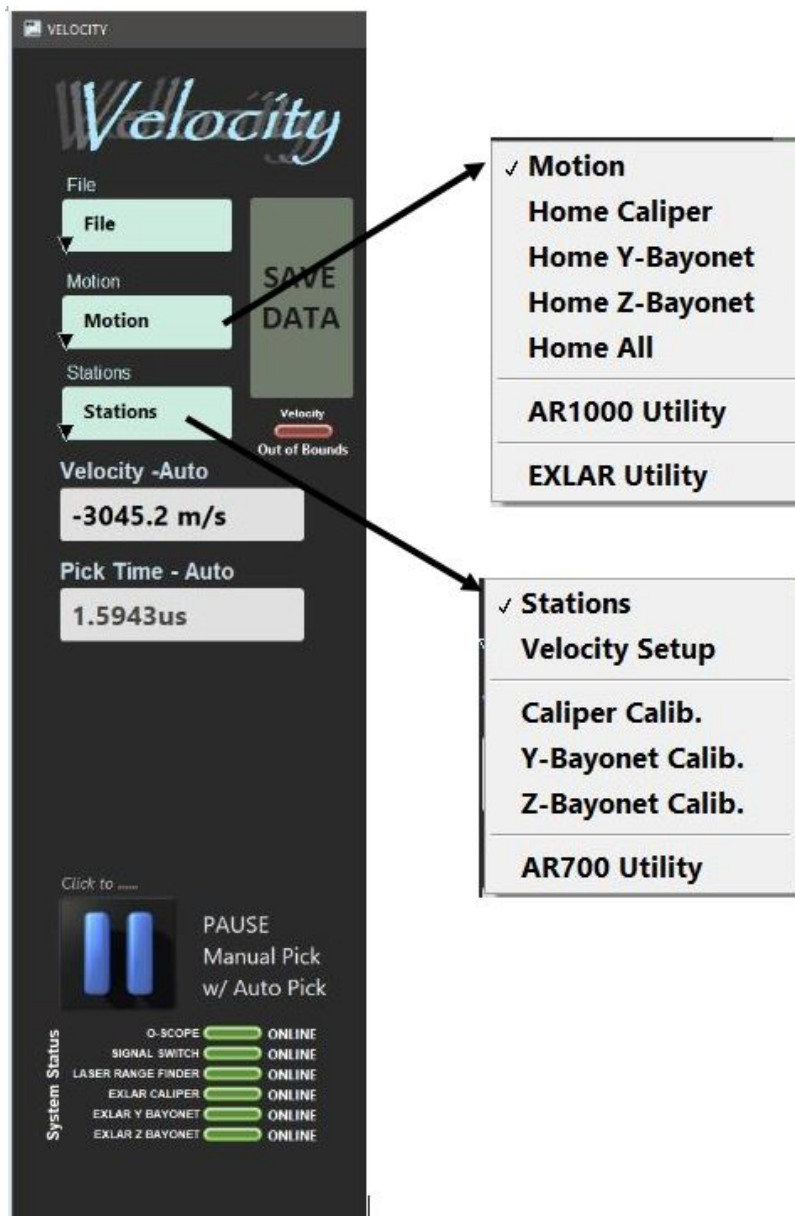
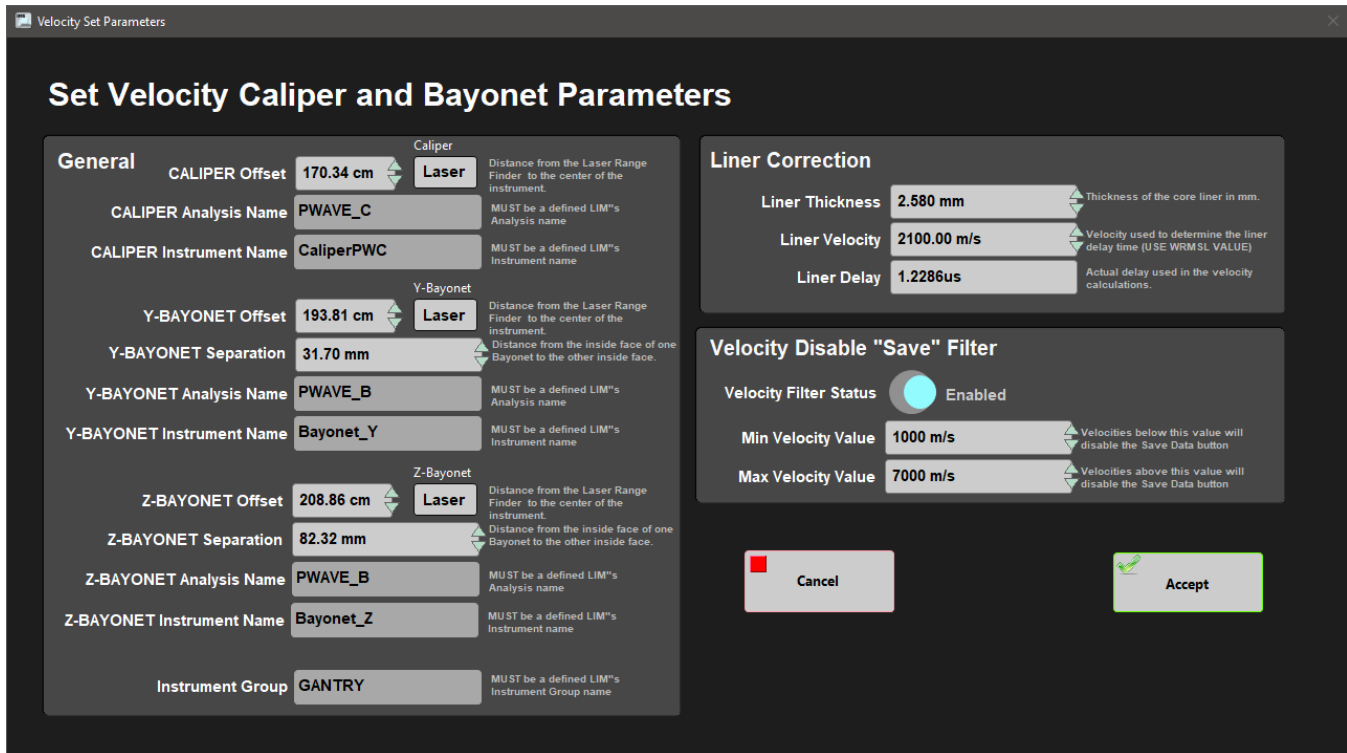
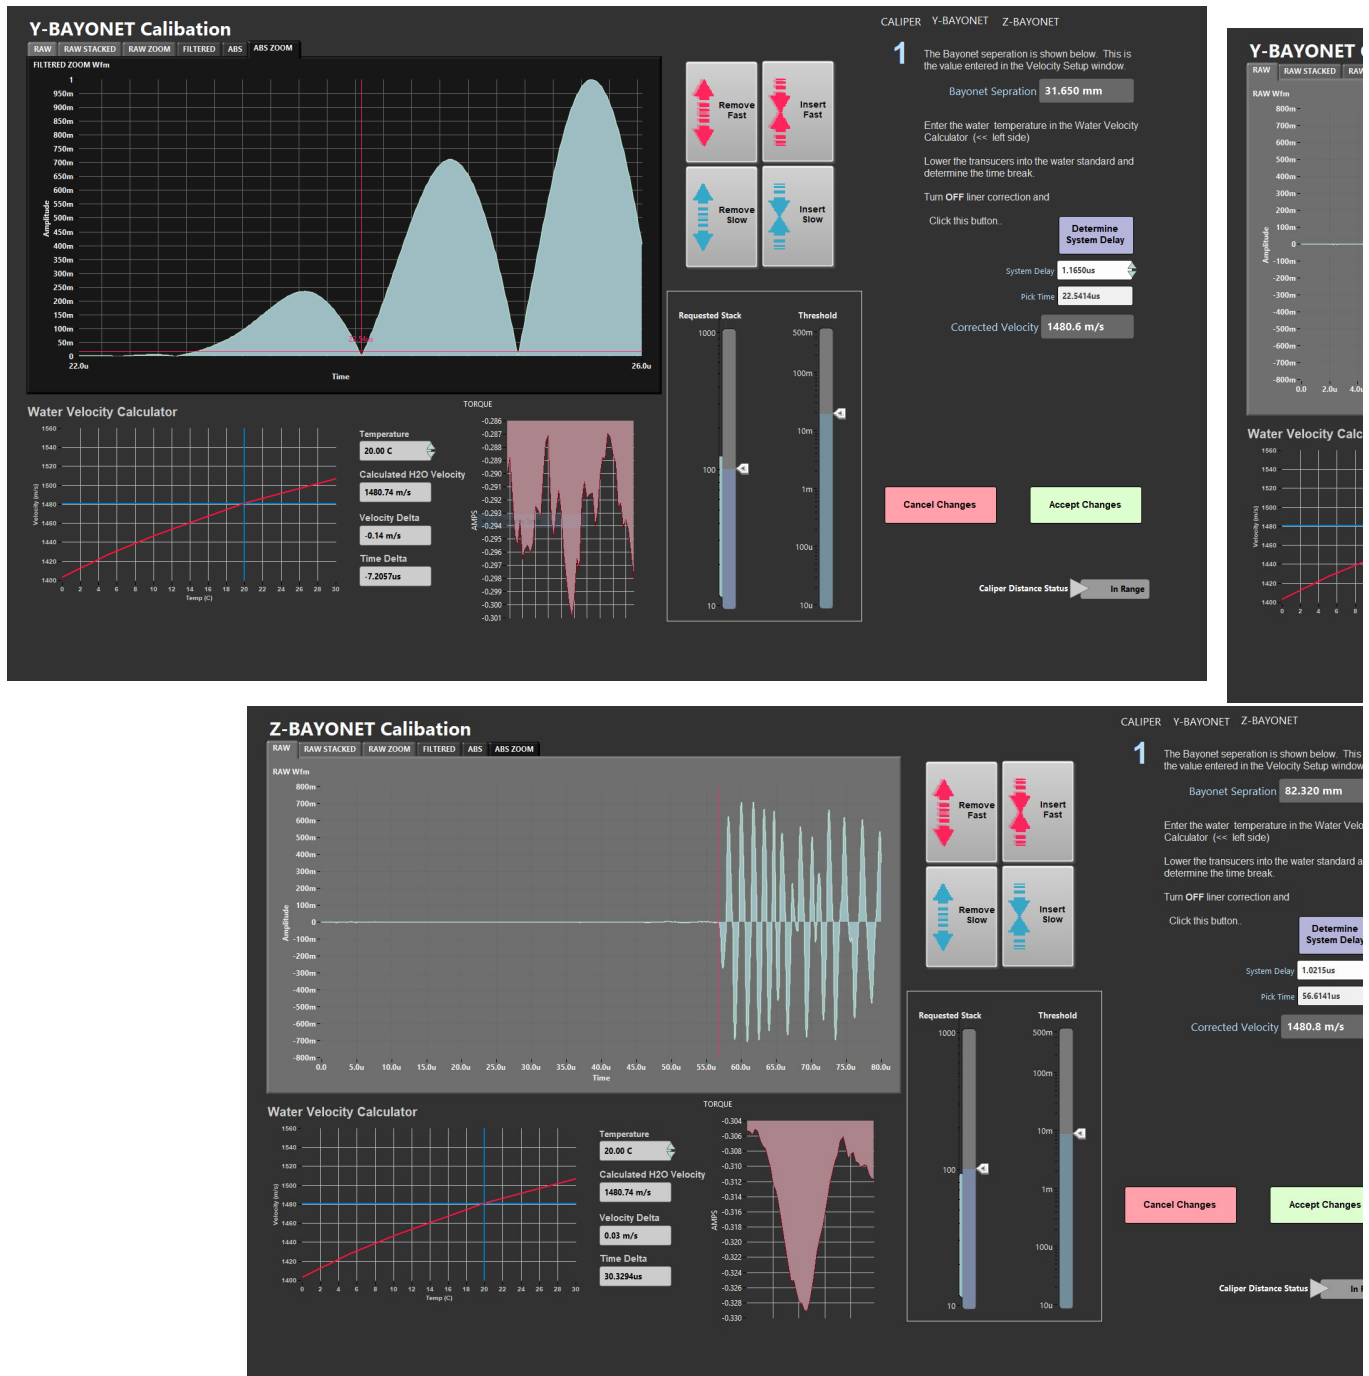

Figure 8. IMS Control Panel Drop Down Menus
Figure 9. Velocity Parameters Window
Figure 11. Y-bayonet and Z-bayonet Calibration windows. Y-bayonet raw graph tab (left), Z-bayonet raw graph tab (center), Y-bayonet ABS Zoom graph tab (right).
The three buttons on the left side of the IMS-UI window provide access to utilities/editors via dropdown menus as shown in **Figure 8**.
To open the Velocity instrument setup window (Figure 9), select **Stations > Velocity Setup** from the IMS panel menu (Figure 8).
1. Ensure the values in the window are set as shown in Figure 9.
To open the Caliper calibration window (Figure 10), select **Stations > Caliper Calib.** from the IMS panel menu (Figure 8).
To open the Bayonet calibration window (**Figure 11**), select **Stations > Y-Bayonet Calib. or Z-Bayonet Calib.** from the IMS panel menu (**Figure 8**).
4. Verify the bayonet separation value. If the value is incorrect, return to the Velocity Setup window (**Figure 9**) to edit the value.
8. Verify the software is picking the first arrival wave in the Raw Stacked graph tab. You can adjust the threshold scale bar to achieve the proper pick location (**Figure 11**) as long as the signal is not too noisy. Also, verify the auto-pick location in the Absolute Value tab (ABS or ABS Zoom) (**Figure 11**). This pick should be at the zero crossing after the first wave form above noise (**Figure 11**). An algorithm calculates the temperature-corrected velocity of the water bath and displays the result in the *Corrected Velocity* field.
4. Verify the automatic velocity pick in the Raw Stacked graph tab (**Figure 11**). You can adjust the threshold scale bar to achieve the proper pick location, or pause the system to do a manual pick. The user may want to verify the auto-pick location in the Absolute Value tab (ABS or ABS Zoom). This pick should be at the zero crossing after the first wave form above noise.